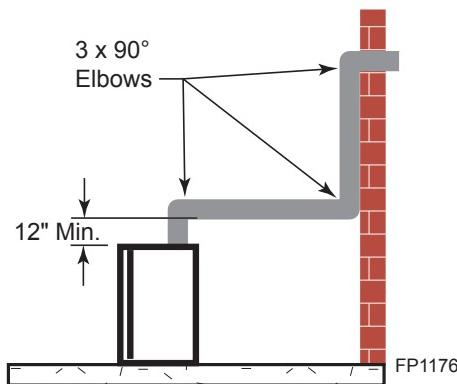

Figure 11 -
- The maximum number of 90° elbows per side wall installation is three (3). *Figure 11*
- If a 90° elbow is used in the horizontal vent run (level height maintained) the horizontal vent length is reduced by 36". Refer to Page 17, *Figures 11 and 12*. This does not apply if the 90° elbows are used to increase or redirect a vertical rise. *Figure 14*